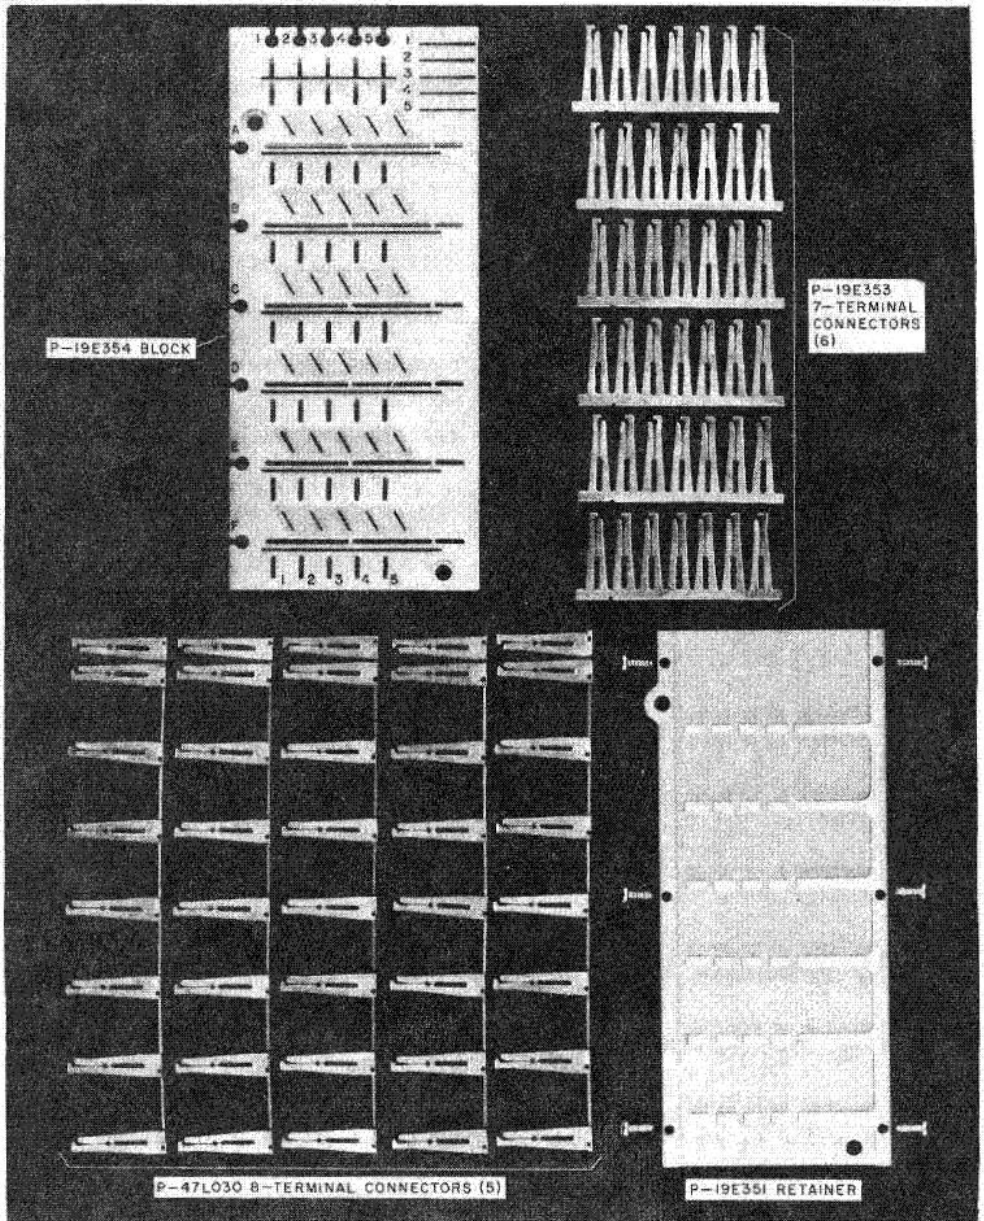
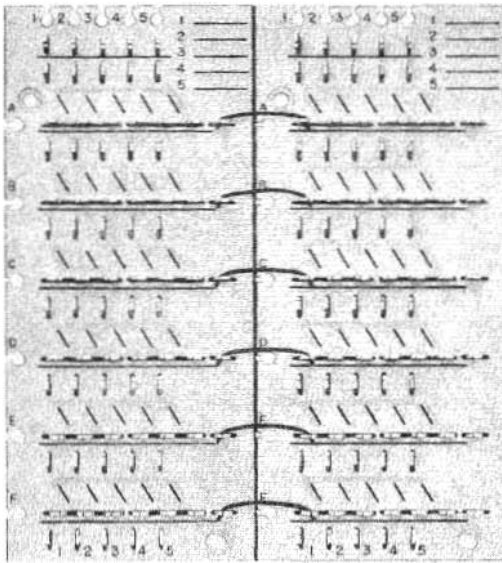

Fig. 2—1A1 Matrix Block—Components
Fig. 3—Modular Array (Multiplied Horizontally)
2.03 The various components used in the assembly of a complete 1A1 Matrix Block are shown in Fig. 2. It will be noted that the cross-grid or "matrix" array consists of five vertically positioned rows of a 8-clip terminal (8-terminal connector). The uppermost clip is for the termination of connecting circuit leads. The bottom (end) clip serves as a multiplying point for extending the capacity of the matrix unit. Six rows of a 7-clip terminal (7-terminal connector) are positioned at right angles to these. The left-hand clip on each serves to terminate external circuit leads. The right side (clip) serves as a multiplying point for extending the horizontal capacity (Fig. 3, 4, and 5).
provided. Where extended capacity beyond one block is necessary, modular arrays (Fig. 3, 4, and 5) may be employed. Respectively, these offer the following additional capacities: